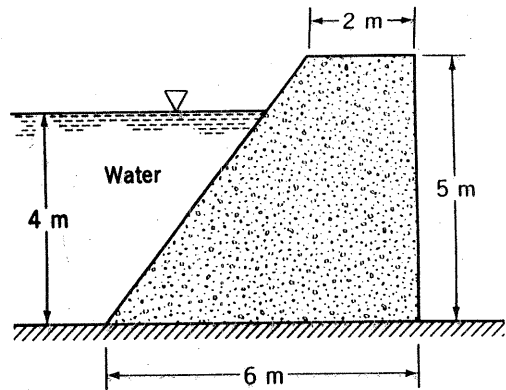

FIGURE P2.68
2.68 Dams can vary from very large structures with curved faces holding back water to great depths, as shown in Video V2.3, to relatively small structures with plane faces as shown in Fig. P2.68. Assume that the concrete dam shown in Fig. P2.68 weighs 23.6 kN/m^3 and rests on a solid foundation. Determine the minimum coefficient of friction between the dam and the foundation required to keep the dam from sliding at the water depth shown. You do not need to consider possible uplift along the base. Base your analysis on a unit length of the dam.